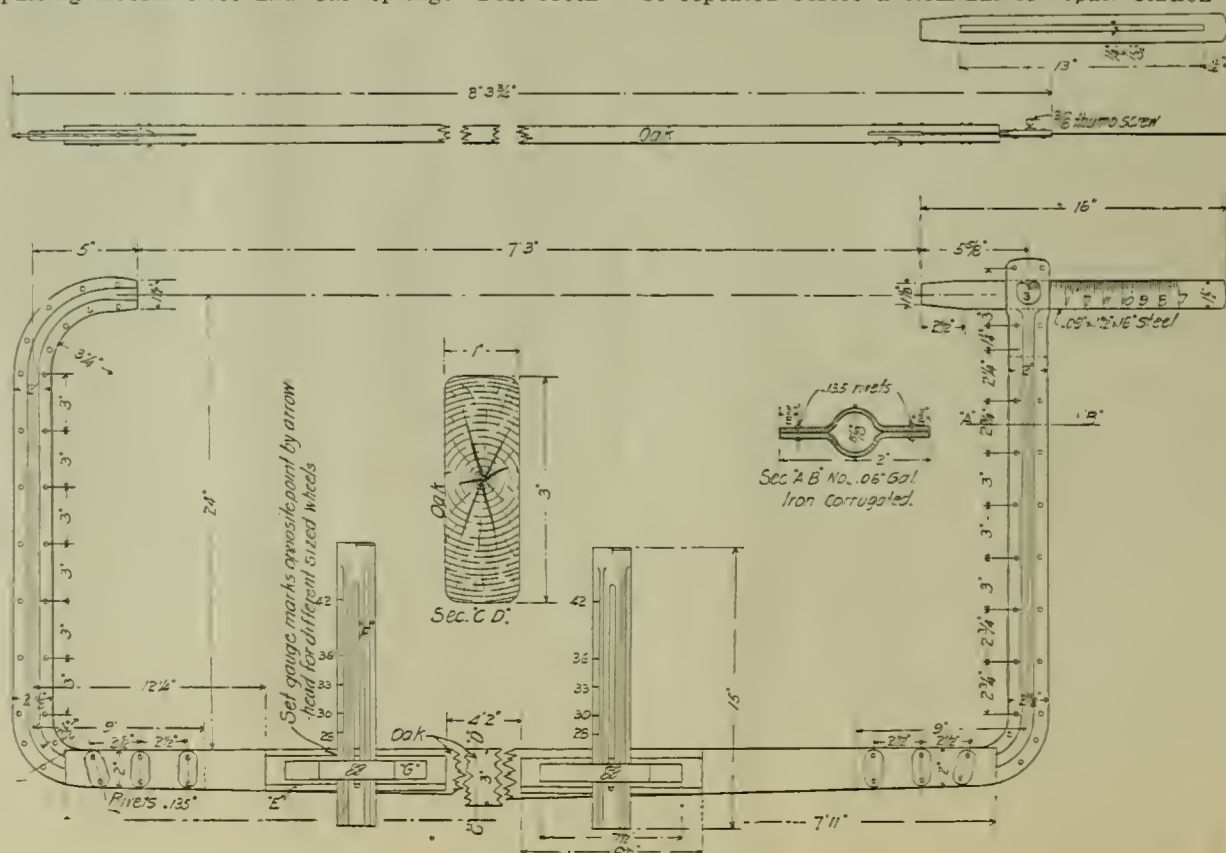

FIG. 1.—A NEW AXLE GAGE.
Southern Railroad at Chicago. It is so excellent in design and of such extreme utility in service that we give complete detail drawing of the device and of its parts. Fig. 1 shows a general plan of the device, the center portion being cut out, however, to enable us to present it in larger detail. It consists of a piece of oak 3 in. by 1 in. and 7 ft. 11 ins. long, tapered as shown. The two arms, which are set into this piece of oak and riveted thereto,
**PNEUMATIC WHEEL HOIST—C. & N. W. RY.** cap at the top with two grooves for the axle, at right angles to each other (see Fig. 1), reaches nearly to the height of the axle. The hoist raises the wheels and axle above the trestle, the axle being parallel with the rails, during the process of hoisting, then the axle and wheels are given a quarter turn on the hoist and are delivered to the trestle which carries them to the car. This device is giving such satisfaction at the Chicago shops that Mr. C. A. Schroyer, superintendent of the car department, to whom we are indebted for our photographs, is having several others built for outside points.